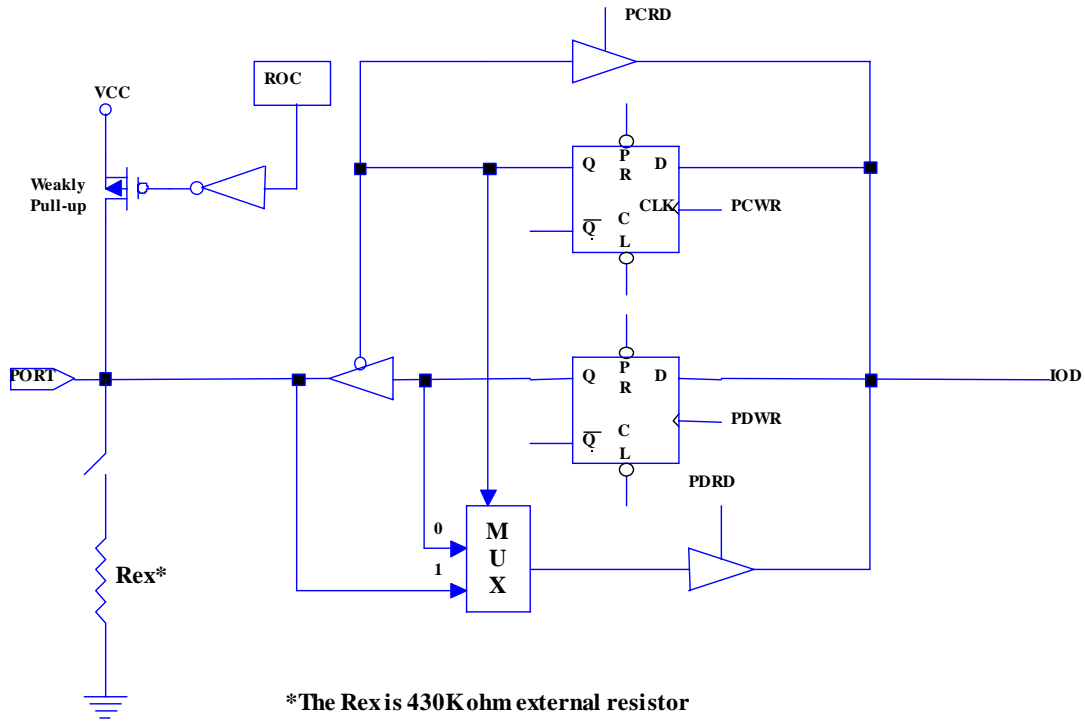

Fig. 8 The Circuit of I/O Port with R-option(P50,P51)
- Setting the ROC to "1" will enable the status of R-option pins (P50~P51) that are read by the controller. Clearing the ROC will disable the R-option function. If the R-option function is selected, user must connect the P51 pin or/and P50 pin to VSS with a 430K Ω external resistor (Rex). If the Rex is connected/disconnected, the status of P50 (P51) is read as "0"/"1". Refer to Fig. 8.
The I/O registers and I/O control registers are both readable and writable. The I/O interface circuits for Port 5 and Port 6 are shown in the following Figures 6, 7(a), 7(b), and Figure 8.